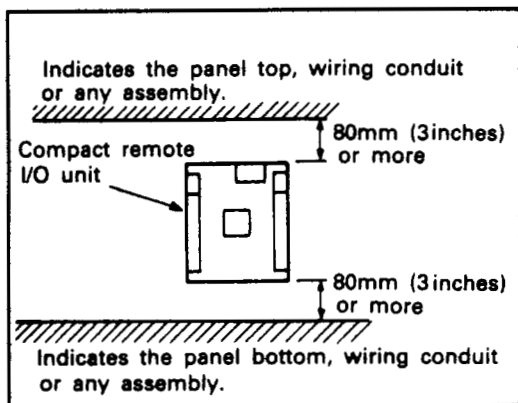

Fig. 3.3 Minimum Clearance
- (a) Leave a minimum of 80mm (3 inches) clearance above the unit to ensure proper ventilation and ease access. (See Fig. 3.3)